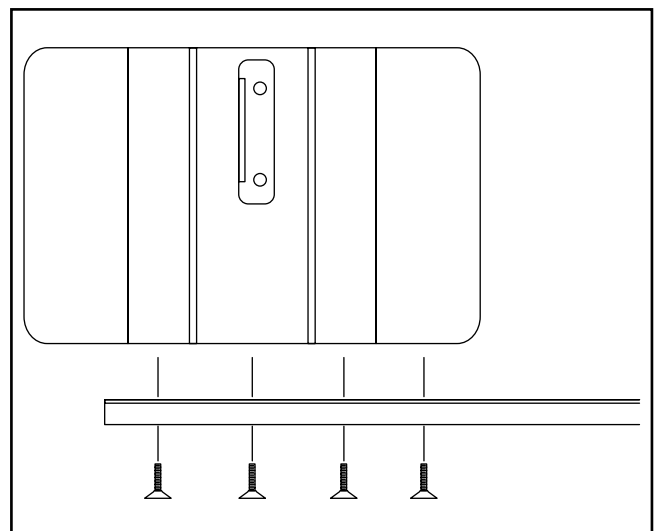

Figure 9. Front rail attachment procedure.
3. Attach the front rail to the table top using the hex socket flathead screws supplied. See **Figure 9**. Place a combination square set at $2\frac{5}{32}$ " , at the edge of the table, and adjust the rail so it is consistently $2\frac{5}{32}$ " below the top of the table.